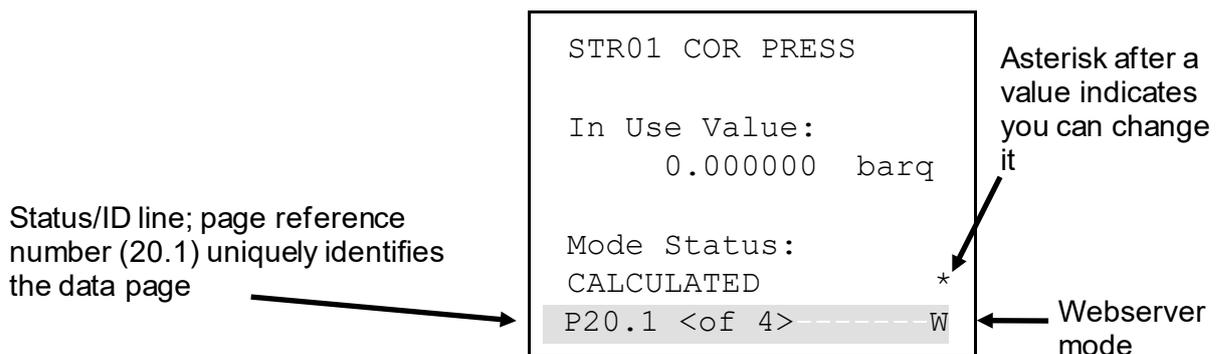

Figure 5-4. Editable Value
An asterisk can also indicate a value you can edit, depending on your security and the database configuration (see Figure 5-4).
The Status/ID line (the shaded line at the bottom of Figure 5-4) appears on every data page.
**S600+ Mode** A letter may appear at the extreme right of the Status/ID line (see *Figure 5-4*). It indicates the current mode for the S600+.